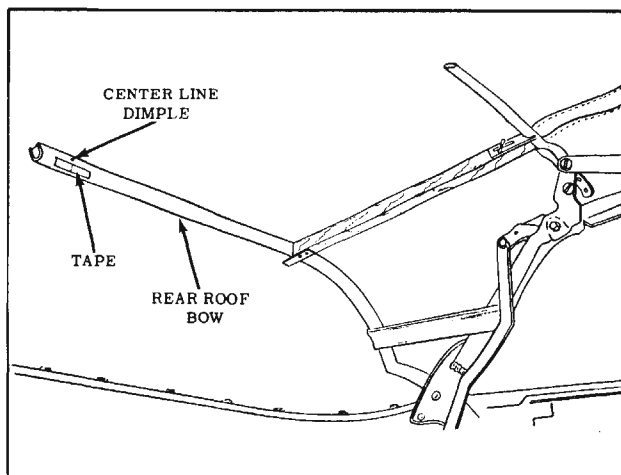

Fig. 16-130 Marking Rear Roof Bow
26. Along forward surface of rear roof bow, install a 1" piece of tape at centerline dimple of rear roof bow. Using a pencil, mark centerline of rear bow on tape. (Fig. 16-130)
NOTE: The deck seam mark will vary slightly ( $\pm 1/4"$ ) depending upon position of rear roof bow. Also check centerline mark on inner lining of top material. Mark should correspond to centerline mark on rear roof bow. (Fig. 16-130)